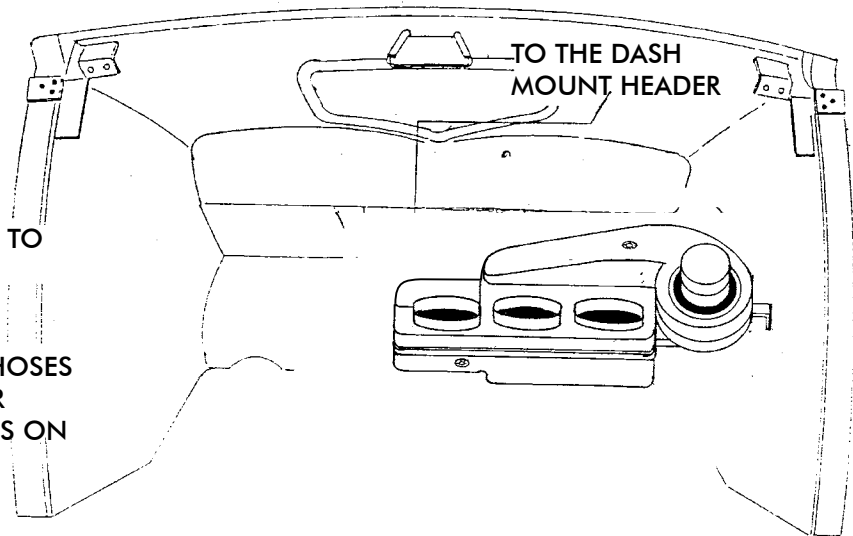

FIGURE 2
3. BRACKETS ARE FURNISHED TO MOUNT THE EVAPORATOR CASE USING THE COWL VENT (ATTACH TO FIREWALL AS SHOWN IN FIGURE 2, BELOW).
4. THE COWL VENT HANDLE WILL WORK IF MOVED TO THE SIDE. YOU CAN ALSO CONVERT TO ELECTRIC OR CABLE OPERATION. IF YOU CLOSE OFF THE COWL VENT, THE UNIT WILL FIT HIGHER IN THE CAR. **NOTE: TO MOUNT THE UNIT HIGHER, SIMPLY DETERMINE THE NEW LOCATION, AND THEN MARK AND REDRILL THE BRACKET TO FIT AS DESCRIBED IN STEP 6, BELOW (SEE FIGURE 2, BELOW).**
6. HAVE A HELPER HOLD THE UNIT UP AS HIGH AS POSSIBLE, WITH THE BLOWER HOUSING AGAINST THE PASSENGER SIDE KICK PANEL. LOCATE THE BRACKET ON THE TOP RIGHT SIDE OF THE BLOWER HOUSING. SCRIBE THROUGH THE 1/4" HOLE IN THE BRACKET TO MARK THE FIREWALL. CHECK TO SEE IF THE LOCATION YOU MARKED LOOKS OK AND WILL CLEAR OBSTRUCTIONS ON BOTH SIDES OF THE FIREWALL. IF SO, DRILL A 9/32" HOLE IN THE FIREWALL. ATTACH THE EVAPORATOR TO THE FIREWALL BY THE BLOWER MOTOR BRACKET WITH A 1/4 - 20 X 1" BOLT AND NUT. USING THE REAR EVAPORATOR BRACKET AS A GUIDE, MARK AND DRILL THROUGH THE 1/4" HOLE IN THE BRACKET. ATTACH THIS BRACKET TO THE FIREWALL WITH A 1/4 - 20 X 1" BOLT AND NUT. THIS WILL LOCATE THE EVAPORATOR HORIZONTALLY. NOW SECURE THE FRONT EVAPORATOR SUPPORT STRAP TO THE UNIT WITH THE 1/4 - 20 X 1/2" BOLT. THIS SUPPORT BRACKET WILL ATTACH TO THE DASH MOUNT HEADER. WITH THE UNIT HELD IN PLACE AND LEVEL, MARK THROUGH THE 1/4" HOLE AT THE TOP OF THE BRACKET TO THE SHEET METAL HEADER. MAKE SURE THAT THE SPOT MARKED WILL PROVIDE A GOOD MOUNTING LOCATION FOR THIS BRACKET. DRILL A 9/32" MOUNTING HOLE. SECURE THE MOUNT STRAP TO THE COWL HEADER WITH A 1/4 - 20 X 1" BOLT AND NUT AS SHOWN IN FIGURE 2, ABOVE.